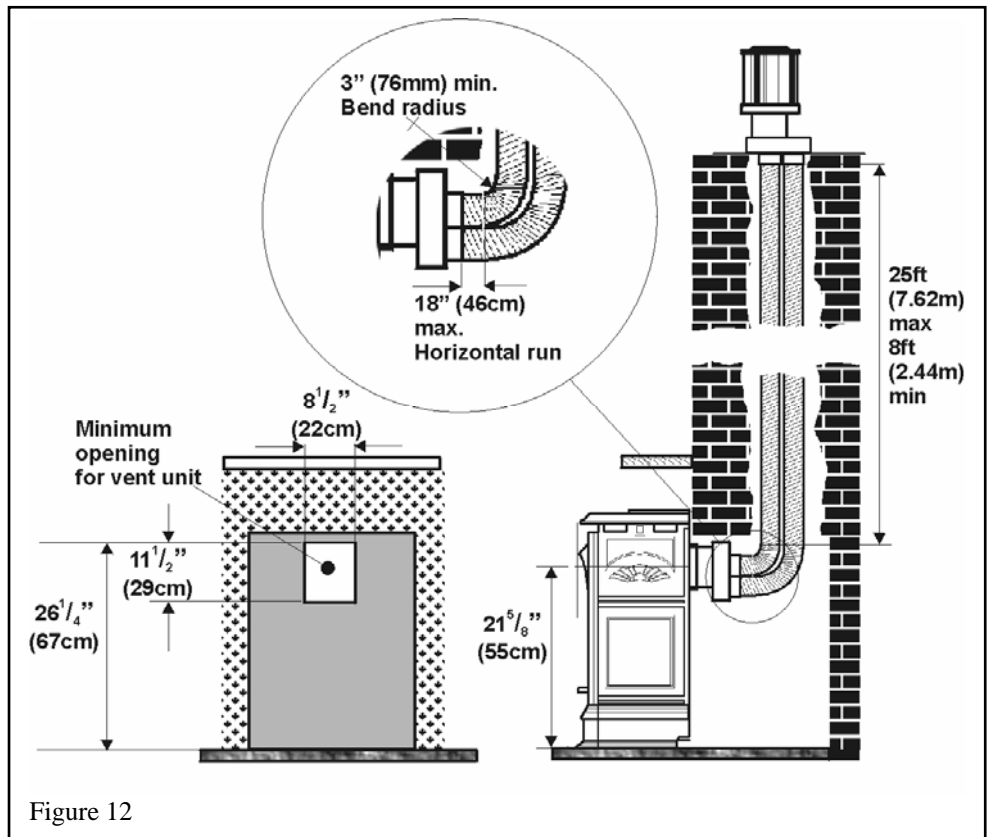

Figure 12
4.2.9. Rear vent connection, installed to fireplace chimney with co-linear liners (Fig.12)